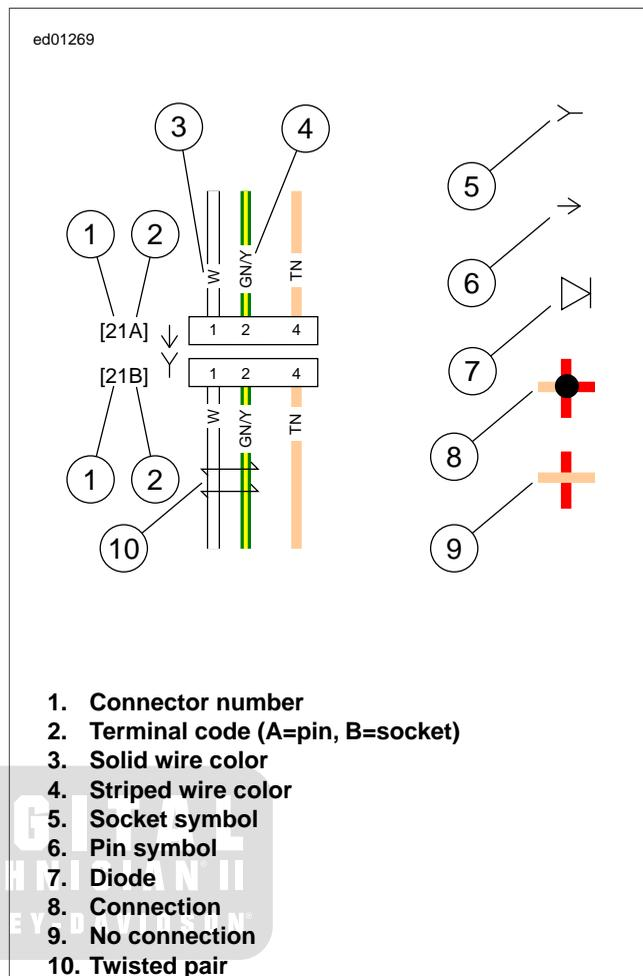

Figure B-16. Connector/Wiring Diagram Symbols (typical)
For Solid Color Wires: See Figure B-16. The alpha code identifies wire color (3).
See Figure B-16. On wiring diagrams and in service/repair instructions, connectors are identified by a number in brackets (1). The letter (2) inside the brackets identifies whether the housing is a socket or pin housing.